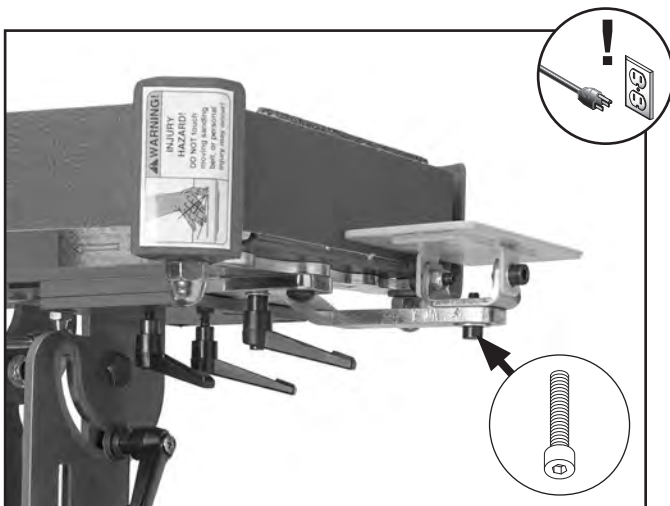

Figure 37. Location of swivel cap screw.
2. Loosen cap screw shown in **Figure 37**, swivel tool rest to match platen angle, then tighten cap screw to secure.